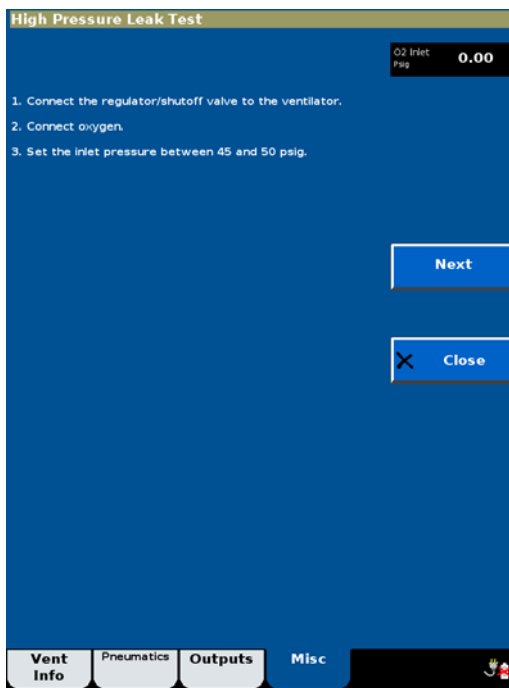

Figure 8-12: High Pressure Leak Test Screen
3. Touch **Misc**, then touch **High Pressure Leak Test** and follow the onscreen prompts (Figure 8-12).